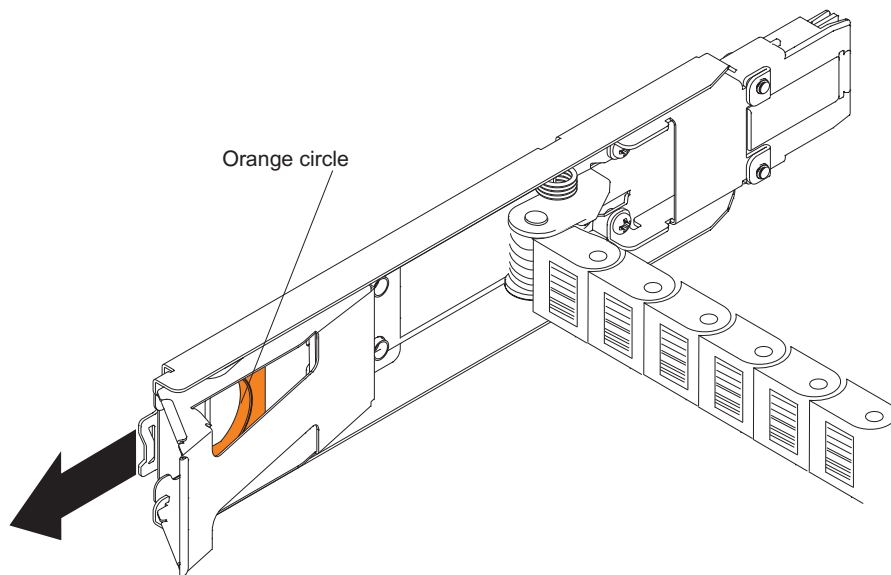

Figure 90. Vertical mounting bracket that connects to the midplane
- c. Disconnect the right cable chain mounting bracket from the midplane. Hold the orange handle (see Figure 90 on page 128), and pull the mounting bracket completely out of the storage expansion enclosure. If necessary, use a flashlight to see the orange handle.